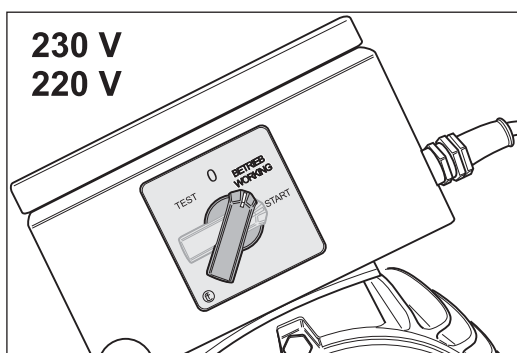

Fig. 24 Once the motor has reached its full speed, release the switch button. The switch button will then automatically move to position -BETRIEB (WORKING)-.
- 3 Once the motor has reached its full speed, release the switch button. The switch button will then automatically move to position -BETRIEB (WORKING)- (fig. 24).